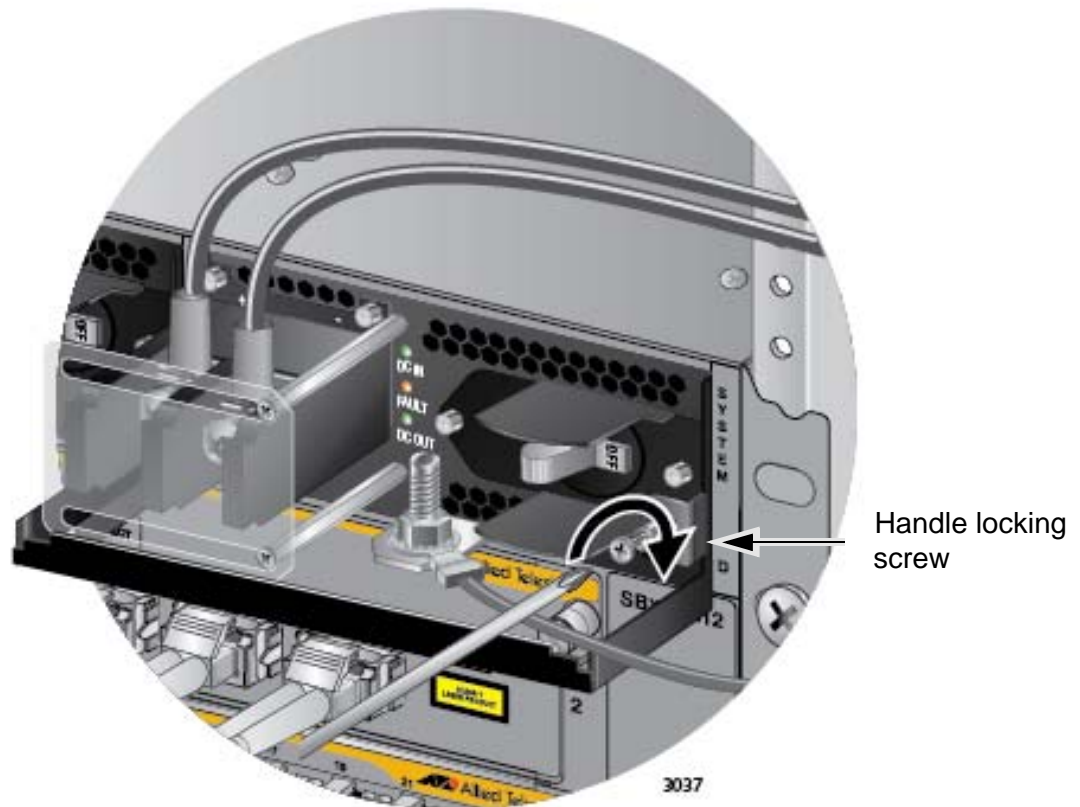

Figure 128. Tightening the Handle Locking Screw
9. With a #2 Phillips-head screwdriver, tighten the handle locking screw to secure the power supply to the chassis. See Figure 128 on page 195.
7. With a #2 Phillips-head screwdriver, tighten the handle locking screw to secure the power supply to the chassis. See Figure 128 on page 195.